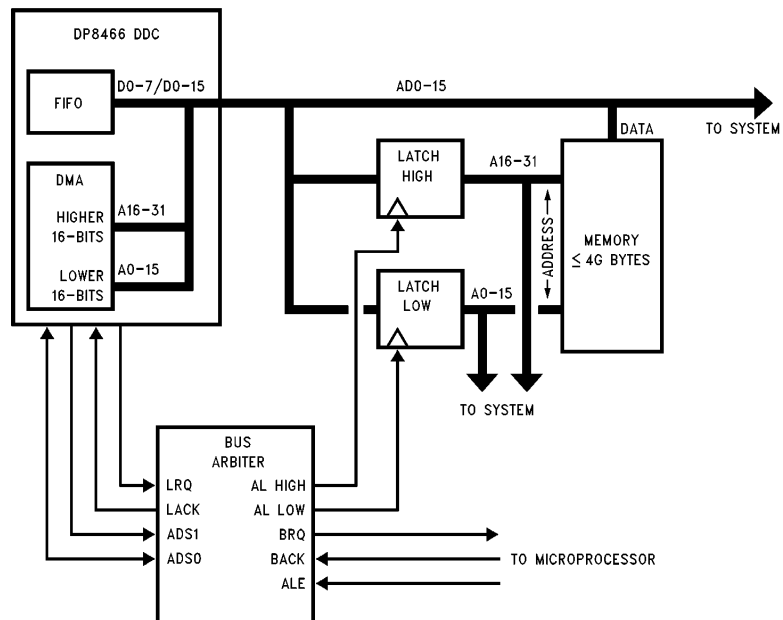

FIGURE 20. Single System Bus, 32-Bit Address DMA
- (1) A single system bus with shared data buffer/system memory (see *Figure 20*).